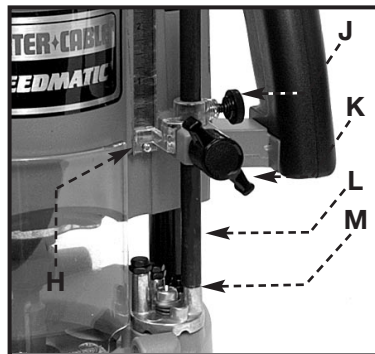
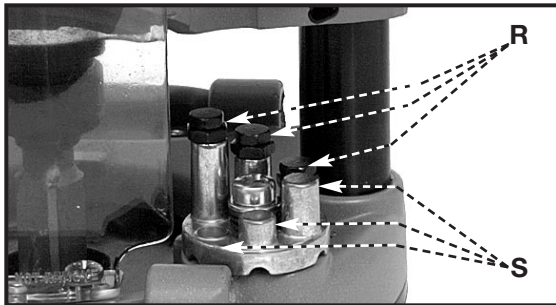
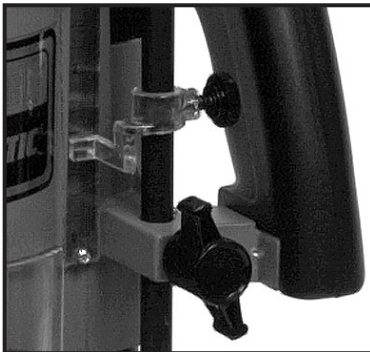

Fig. 5
Fig. 6
Fig. 7
1. Loosen the depth rod locking knob (K) Fig. 5, and the depth indicator knob, (J) Fig. 5, allowing the depth rod to contact one of the turret stops (M) Fig. 5. Normally the deepest desired cut is set with the depth rod resting on the shortest turret stop (see Fig. 6). The other two fixed stops (S) Fig. 6 provide reduced cutting depths of 1/4" and 1/2" respectively. You can position the three adjustable stops (R) Fig. 6 to any height and can use any combination of fixed and/or adjustable stops to achieve the desired depths required.
4. Position the depth indicator (H) Fig. 5 at the "O" position and tighten the knob.
5. Loosen the depth rod locking knob (K) Fig. 5, and raise the depth rod until the indicator aligns with the graduation representing the desired depth of plunge (The example in Fig. 7 shows setting for 1" plunge.) Tighten the depth rod locking knob.